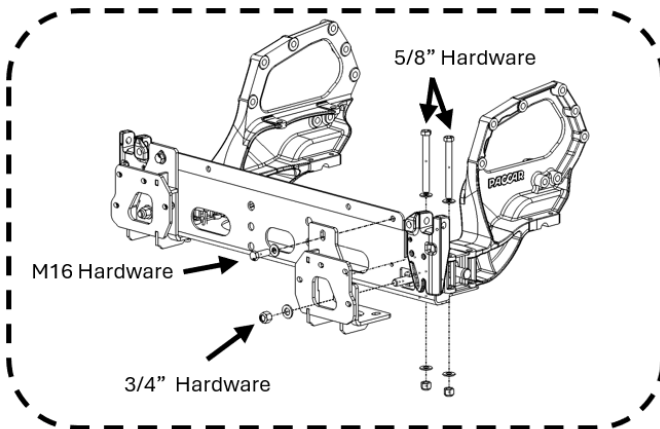
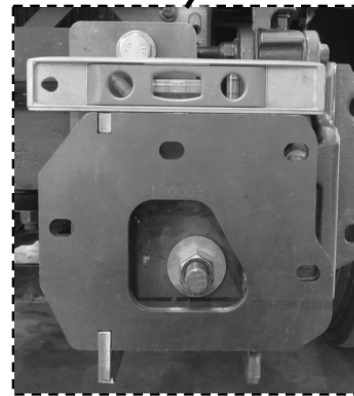

Figure 2c: Submount Installation
Figure 2d: Submount Installation II
3. Install the Herd Submount and secure it to the crossmember using the provided M16 Hardware and 3/4" Hardware to the Tow Receiver Insert. Secure the Submount to the frame using the provided 5/8" Hardware and ensure the Submount is level relative to the trucks' frame; see Figure 2c and Figure 2d. Repeat this step for both Submounts.